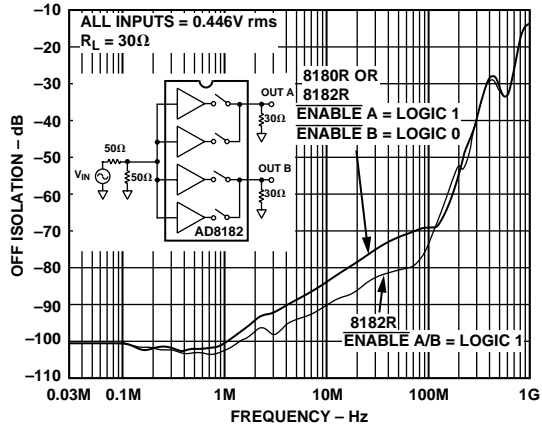

Figure 14. "OFF" Isolation vs. Frequency
- ⁷Mux is disabled (i.e., ENABLE = Logic 1) and all inputs are driven simultaneously with $V_{IN} = 0.446$ V rms. Output is monitored at $f = 5$ and 30 MHz. $R_L = 30$ Ω to simulate R_{ON} of one enabled mux within a system (see Figure 14). In this mode the output impedance is very high (typ 10 M Ω), and the signal couples across the package; the load impedance determines the crosstalk.